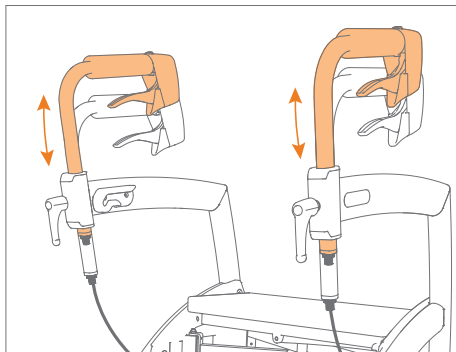

Figure 15: Set the correct height.
- b. Slide the handles to the correct height (**Figure 15**).